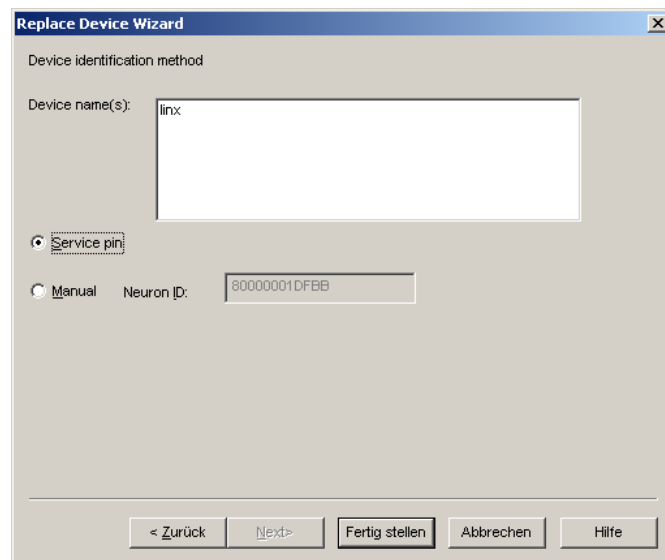

Figure 104: Select Service Pin and click Finish.
6. Select the **Service pin** method and click on **Finish** as shown in Figure 104.